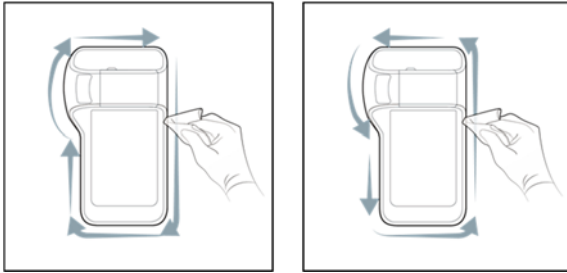

Figure 7. Wipe the meter frame
8. Follow the Figure 7 to wipe the meter frame.